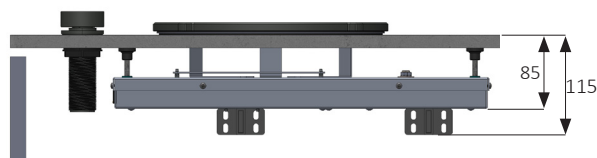

fig. 3
- When planning to install the PITT® cooking module above a drawer, account for the total thickness of the unit and support set, which is 115 mm (Top Side and Front Side), measured from the top of the countertop (see fig. 3).
- To prevent bending of the kitchen countertop, the cooktop must be supported with the PITT® cooking support set (see figs. 3 and 4).